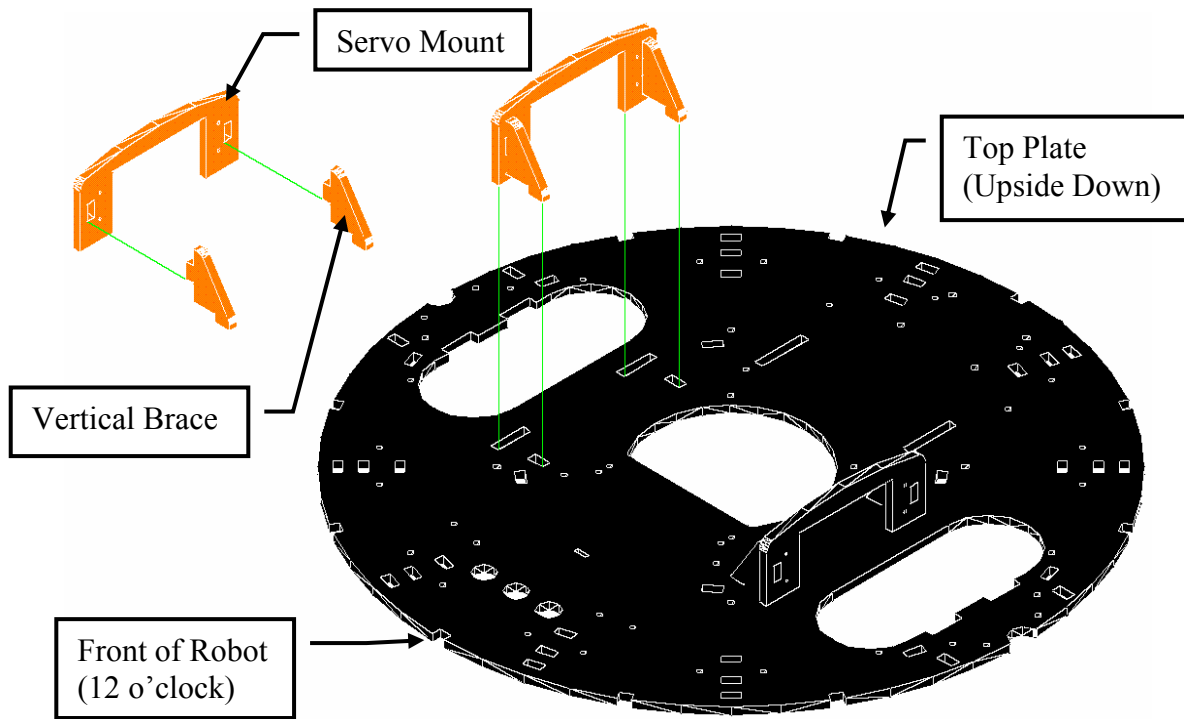

Figure 18. Mount the Servo Holders for the right and left wheel motors onto the underneath side of the Top Plate.
2. (Figure 18) Assemble and glue *Servo Mount* under the *Top Plate*.
2. (Figure 18) Turn the *Top Plate* upside down (side with no engraving).
3. (Figure 18) Superglue the two *Vertical Braces* onto the *Servo Mount*.